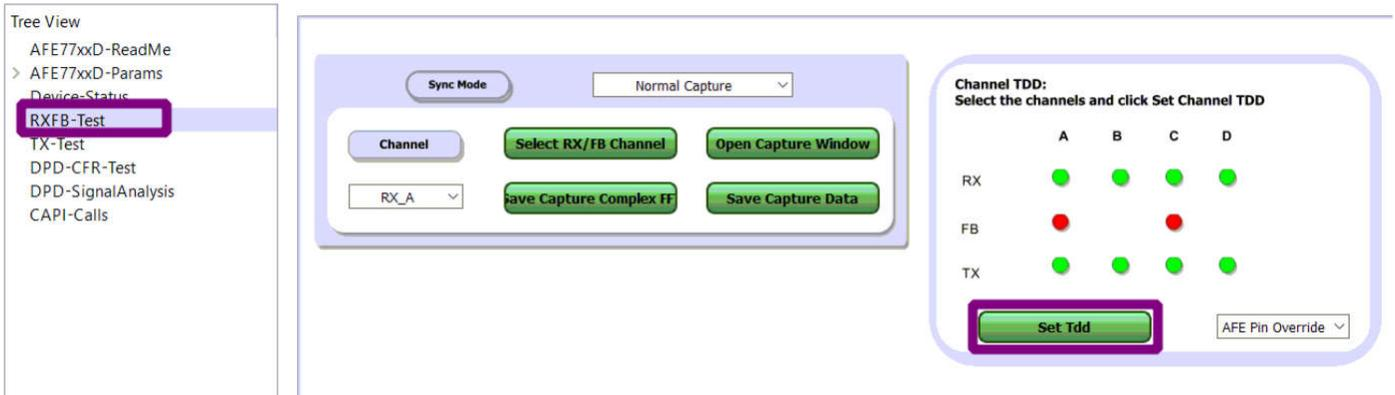

Figure 4-20. TDD Configuration for TX to RX Test
- To be able to output signals from the TX RF ports and input signals from the RX and FB RF ports, the "Channel TDD" needs to be set for the required channels under test. This is done by going to the "RXFB-Test" page in the AFE77xxD GUI by clicking on "RXFB-Test" on the left side of the software window. In the "Channel TDD" box on this page, click on the red dots to make them green, and finally click the "Set Tdd" button; see Figure 4-20.